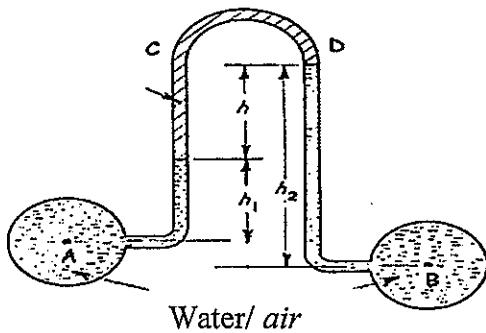

Figure 3/ Rajah 3
- c) An inverted U-tube manometer in **Figure 3** is filled with mercury in a U-tube and water in pipe A and B. Calculate the pressure difference A and B if $h = 80 \text{ cm}$, $h_1 = 70 \text{ cm}$ and $h_2 = 165 \text{ cm}$. Given the $s_{HG} = 13.6$